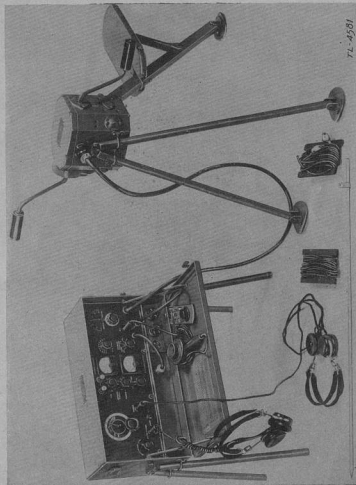

FIGURE 1.—Radio set SCR-288.
1. **General.**—Radio set SCR-288 (fig. 1) is a portable amplitude-modulated transmitting and receiving set. The transmitter is designed to operate within the frequency range of 3,500 to 6,300 kilocycles and to deliver 4 watts of power into the antenna for either voice-modulated (phone) or continuous-wave (c-w) operation. The receiver is designed to operate within the frequency range of 2,300 to 6,500 kilocycles on either voice-modulated, tone-modulated, or continuous-wave operation. The approximate reliable communication range is 15 miles for continuous-wave operation and 8 miles for voice-
3. **Radio receiver and transmitter BC-474 A.**—This unit is housed in a spot-welded aluminum alloy cabinet. Four removable legs are provided so that when set up for operation the equipment is about 12 inches above the ground. The lid of the cabinet is hinged and opens downward, thus making a shelf which provides space for writing and for holding the telegraph key. The receiver and transmitter components are mounted on a single panel and on a chassis which is located in the upper part of the cabinet. The battery pack and filter are located directly under the receiver-transmitter chassis. The filter permits the receiver to be operated by power received from the hand-driven generator. (See fig. 1.)
5. **Filter FL-10.**—The parts comprising the filter are mounted in a small aluminum box of such size and shape that when in use it may be placed in the lower compartment of the receiver-transmitter case adjacent to the battery pack. (See figs. 1 and 4.)
6. **Component parts.**—The following is a list of component parts used in radio set SCR-288 (see figs. 1, 2, 3, and 4):